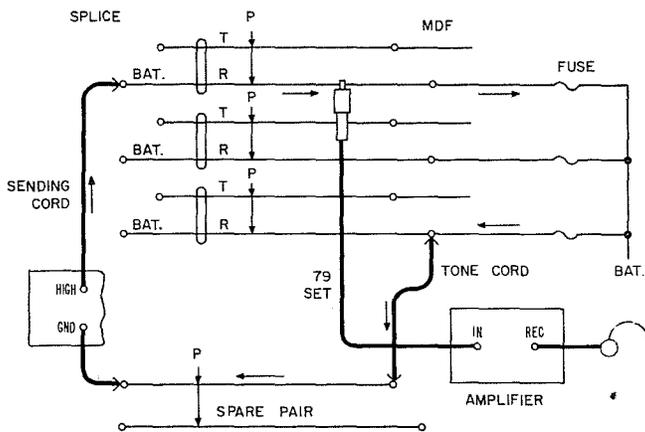

Fig. 6—Tracing Tone Current Path
2.05 If there are no strapped battery conductors, no difficulty should be experienced. Referring to Fig. 6, the path of the tone current can be traced from the HIGH post along the battery conductor and cross-connection to the nongrounded side of the central office battery, and then back on a cross-connection, the tone cord and the spare conductor to the GND post. The indicated splice may be in a main cable, at the end of a stub cable, or in a branch cable.